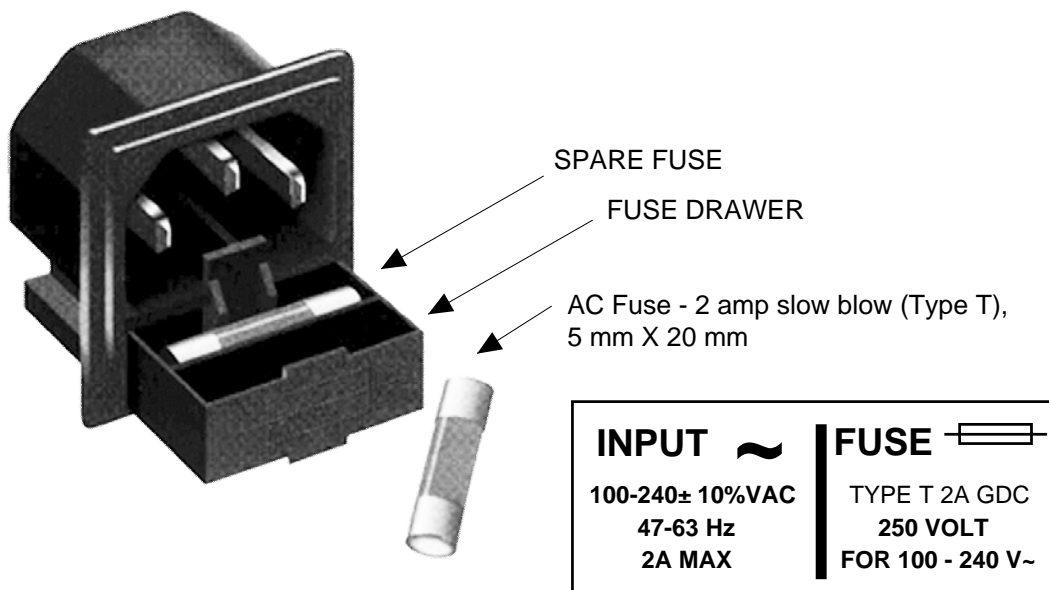

FIGURE 2.4 Fuse Location and Spare Fuse
7. **AC Fuse** - The fuse is a 5 mm X 20 mm, 2 amp slow blow (Type T) and is inserted in the far slot in the drawer below the AC input as shown in Figure 2.4. There is a spare fuse in the near slot.